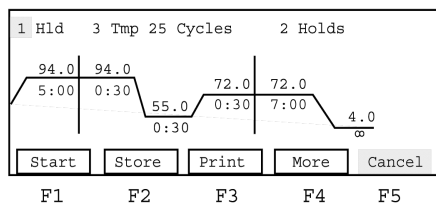

Figure 4-3. The Create screen
1. From the Main menu, press **F2 -Create**. This displays the Create screen (Figure 4-3).